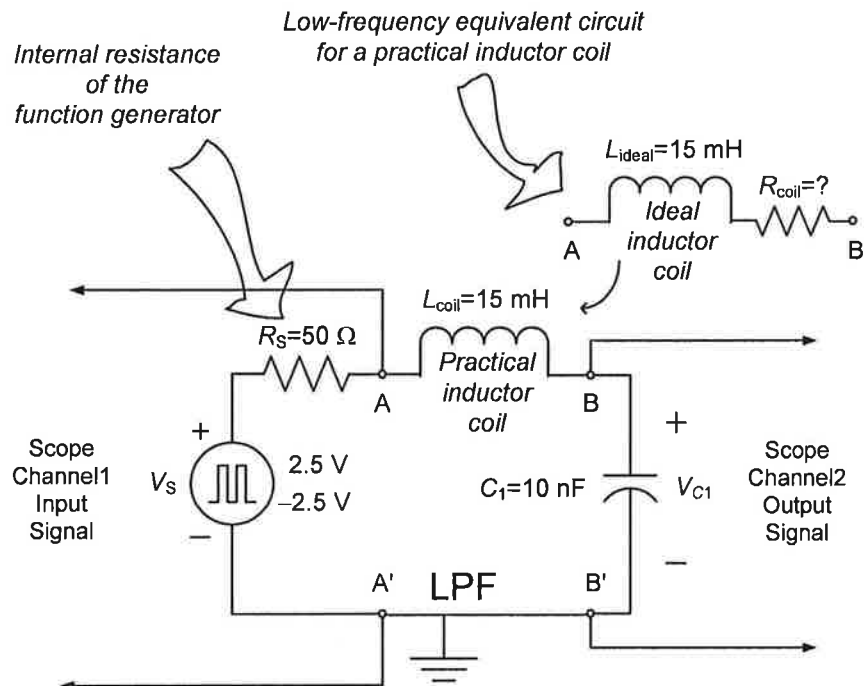

Figure 4. Second-order series RLC circuit.
**Lab Experiment 2:** Construct the second-order series RLC circuit shown in Fig. 4 using  $L_{\text{coil}}=15$  mH and  $C_1=10$  nF. Using the digital LCR meter, measure and record the actual value of the capacitor used. Using the actual element values of the circuit measured, do the following: